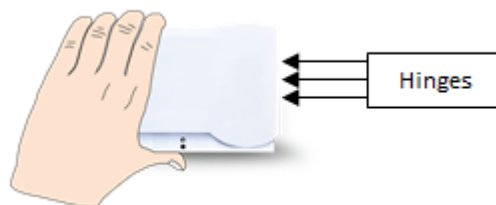

Figure 22-Line Up Hinges on Right
- Step 41 Hook the thermostat to the hinges on the right side of the backplate, as shown Figure 22.